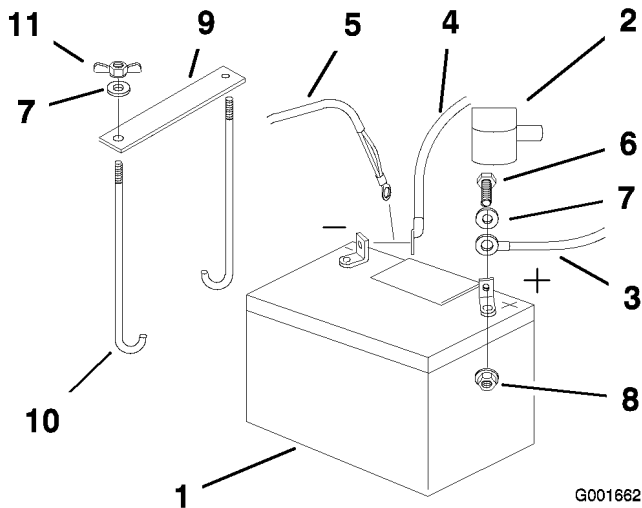

Figure 43
4. First disconnect the negative battery cable and ground wire from the negative (-) battery terminal (Figure 43).
5. Slide the red terminal boot off the positive (red) battery terminal. Then remove the positive (red) battery cable (Figure 43).
6. Remove both wing nuts (1/4 inch) securing the battery clamp (Figure 43).
1. Position battery in the tray with the terminal posts toward the engine (Figure 43).
4. Secure the cables with 2 bolts (1/4 x 3/4 inch), 2 washers (1/4 inch), and 2 locknuts (1/4 inch) (Figure 43).
6. Secure battery with J-bolts, hold down clamp and 2 washers (1/4 inch), and 2 wing nuts (1/4 inch) (Figure 43).